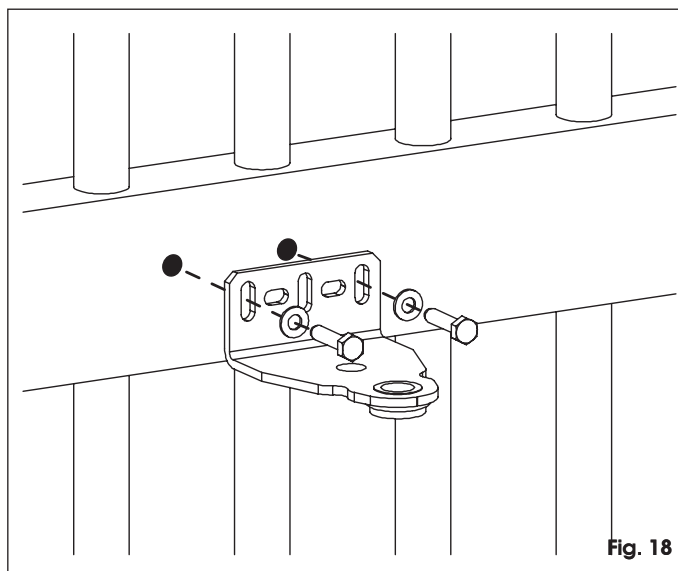

Fig. 18
12. Definitively secure the front bracket, using a suitable securing system as indicated in figure 18.